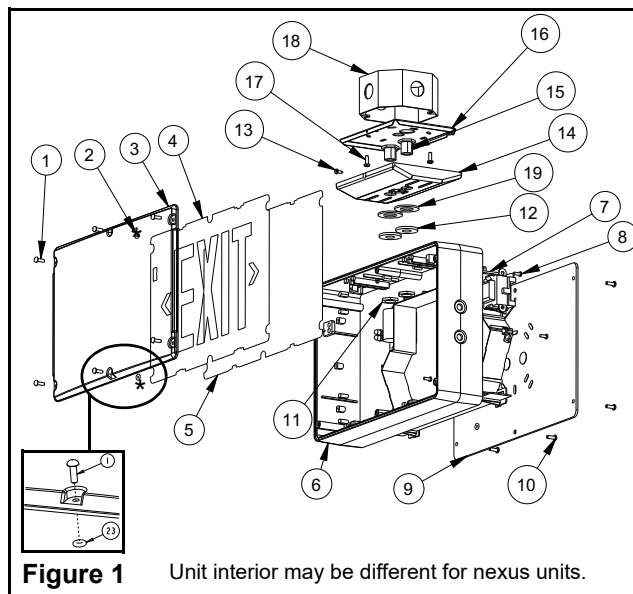
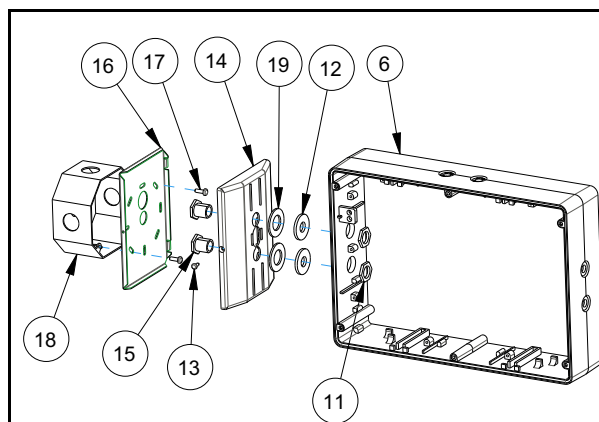

Figure 1 Unit interior may be different for nexus units.
Figure 3
- e. Make sure the securement screw is accessible (see fig.1 part # 13). Use existing screws in junction box to secure canopy backplate to the junction box.
- h. Determine which holes in the exit frame will be used for mounting (see fig.1 & fig.3). Support frame with two blocks of wood, maximum one inch apart. Strike knockouts with a hammer and screwdriver. Clear holes of burrs to allow proper assembly of nipple/wire assembly.
- i. Secure canopy to the frame by threading the provided nipple/wire assembly through the canopy and frame. Make sure the gasket washers and nylon washer are between the canopy and frame, and that the locknuts(11) are inside the exit sign (see fig. 1 & 3).
5. Install the lens by using the 6 tamper-proof screws. The o-rings has to be installed on the screw between the lens-legend and the frame as shown in figure 1.